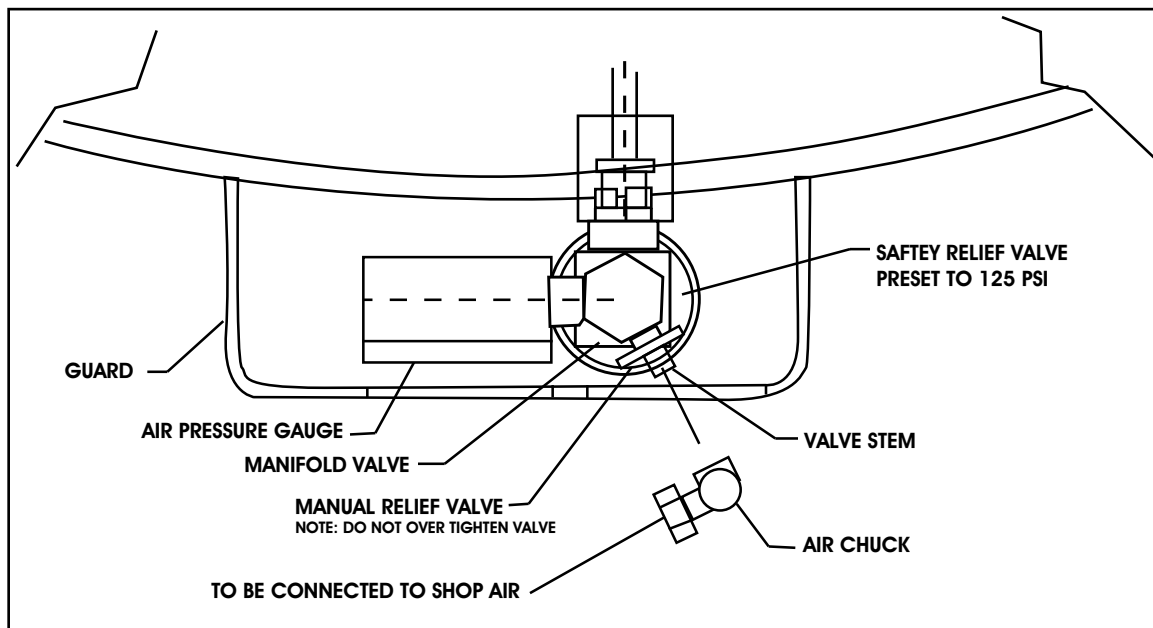

Figure 5 – Air/Valve System
2. With no load on the unit, use shop air or an air compressor to pressurize the system to the required initial pressure. If shop air is used, set the air regulator to the required initial pressure. The unit is equipped with an air pressure gauge and an air manifold valve including a valve stem, a manual relief knob and a safety relief valve. Add air to the actuator system through the valve stem, and release air from the system by loosening the manual relief valve. (See Figure 5).